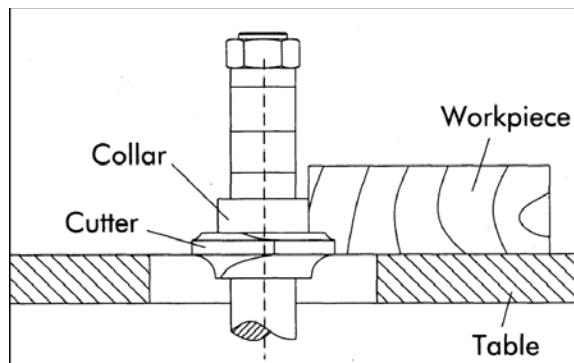

Figure 32
- When the collar is used above the cutter, as shown in Figure 32, the cut can not be seen, but this method offers an advantage in that the cut is not affected by slight variations in the thickness of the stock. Also, accidental lifting of the workpiece will not gouge the workpiece; simply repeat the operation to correct the mistake.